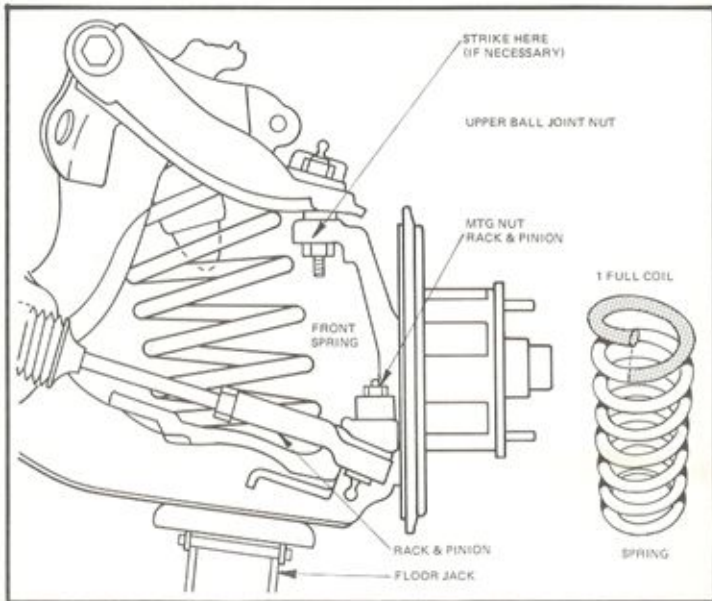

Figure 22
- Disconnect rack and pinion from wheel. Secure chassis on jack stands under frame. Place a floor jack under wheel assembly and compress spring. Use additional weight on front end if necessary. Loosen upper ball joint nut about halfway. Do not remove. If ball joint will not work free, rap on side of wheel assembly with a hammer to free it. Do not strike threaded portion. Remove nut and slowly lower wheel assembly until spring is free. If spring should get stuck use a rubber mallet or screw driver to free it. (Figure 22)
- Cut 1 full coil off of the bottom of spring No. 362193 ATD. Reinstall in car by jacking up wheel assembly until ball joint stud can be seated. Reinstall nut and tighten. (Figure 22) Wheels and tires can now be installed to give a rolling chassis.